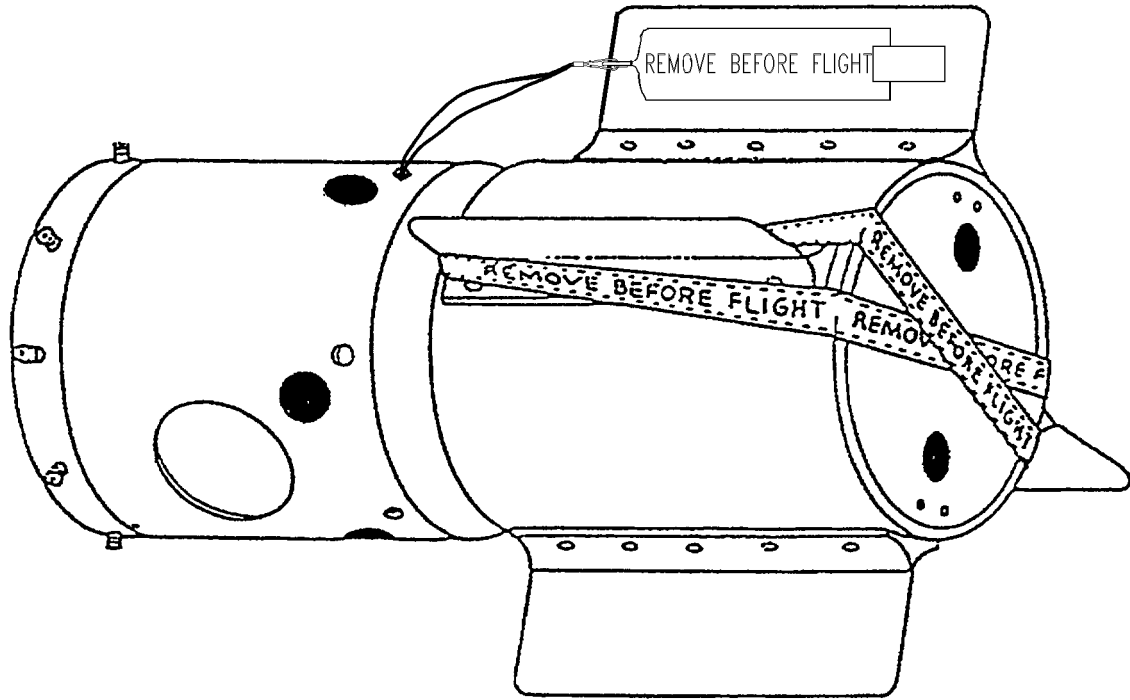

Figure 4-7B. Tail Section Mk 12
- a. Check periphery of tail section and verify that all setscrews (12) are present; then, if necessary, back out setscrews just enough to permit section to slip over aft end of bomb.
- b. Check tail end of section and verify that the safety harness is in place (Figure 4-7B). If ECI 0285 has been performed, verify warning streamer is in place.